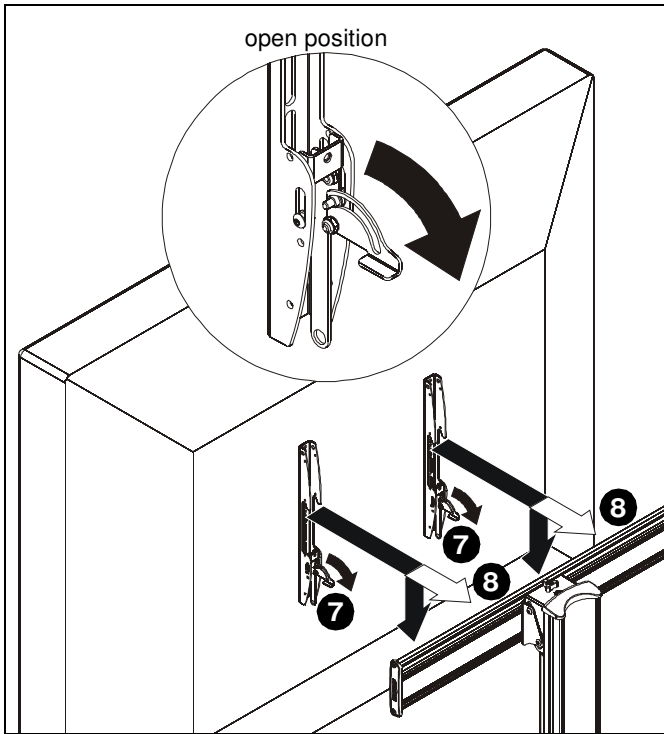

Figure 6
7. Position latches on interface uprights so that they are in the “open” position. (See Figure 6)
8. Hang interface uprights (B) on interface head assembly (E). (See Figure 6)